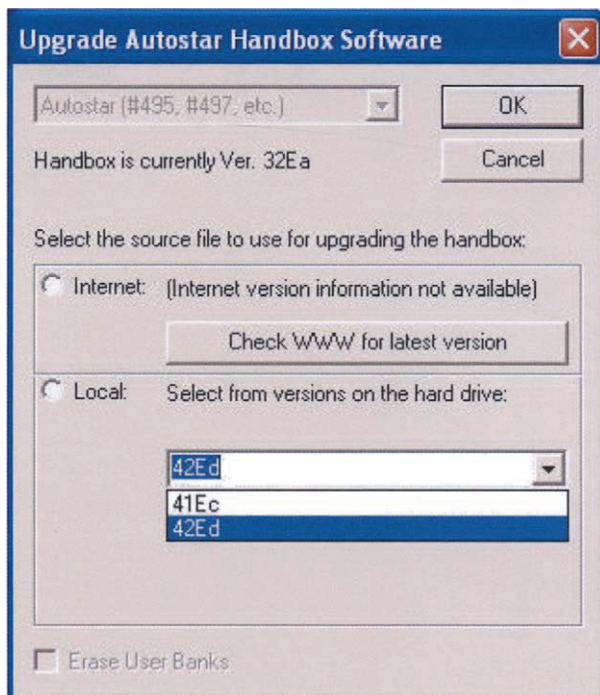

Figure 9.5. Upgrade Autostar handbox software window.
6. The “Upgrade Autostar Handbook Software” window is then displayed on the computer screen (Figure 9.5). The current version of the Autostar firmware is listed in the window.
- b. If you choose local hard drive then the ASU will search the ‘Ephemerides’ folder for suitable files and list them in the dropdown box in the window (Figure 9.5). See later for how to download from the internet without using the ASU.